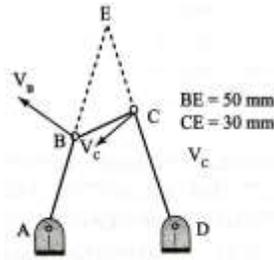

Figure 2
3. Velocity of point B in the 4-bar mechanism shown in figure 2 is 5 m/s. Find the velocity of point C. Given that, AB=20 mm, BC=35 mm, CD=40 mm, AD=50 mm. Use instantaneous center approach. CO2 [K2]